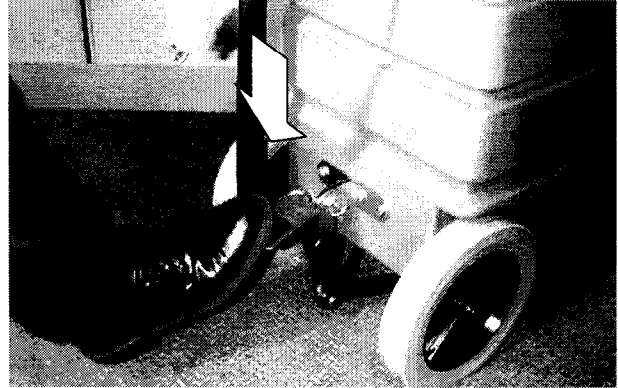

FIG. 11.
4. To raise squeegee, step downward on the pedal until pedal engages in transport position. (Figure 11.)